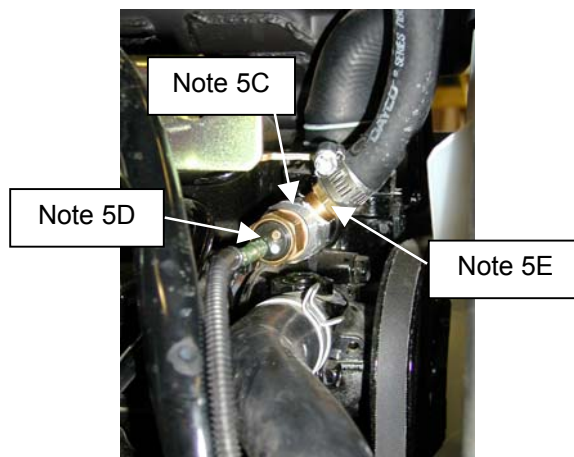

Figure 5C
- C. Install aluminum fitting #3-15815 with O-ring washer #3-16823 into thermostat housing. See Figure 5C.